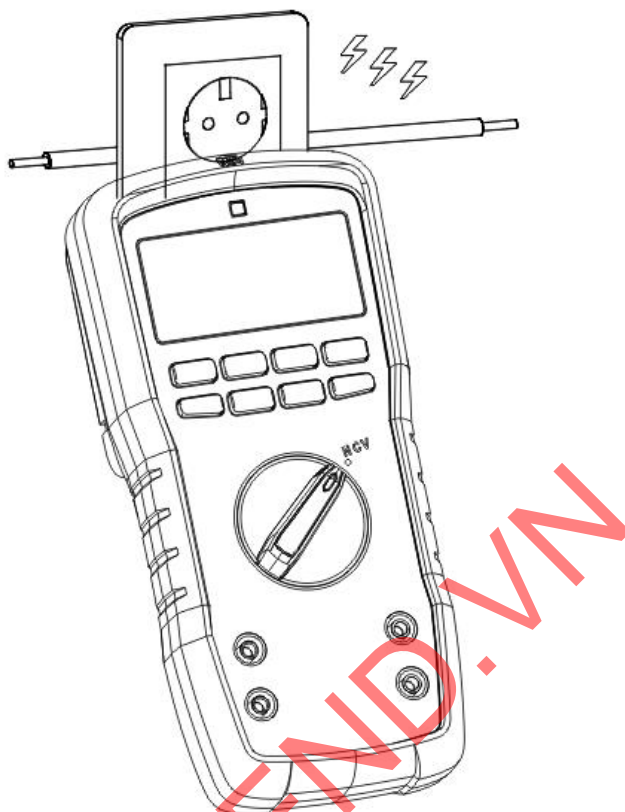

Figure 16
15. Non-contact AC voltage sensing (NCV) (Figure 16)